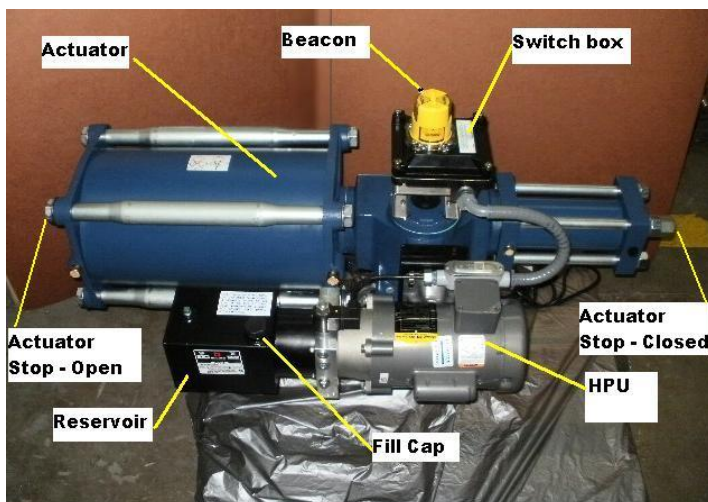

Figure 1
The hydraulic power unit (HPU) operates on Single Phase 115 or 230 VAC depending on customer order. Power is applied to the actuator closing the solenoid valve and starting the HPU motor. The fail closed actuator begins to open. The motor shuts off when the actuator reaches the fully open position but the hydraulic control solenoid remains energized with its solenoid valve closed. The actuator closes by spring energy when the electricity is shut off (either by remote control or by a power failure). The rotating beacon shows valve position. (See Figure 1)
- H. If the actuator did not open or close fully, adjust the actuator stops and repeat step “F”. (See Figure 1).